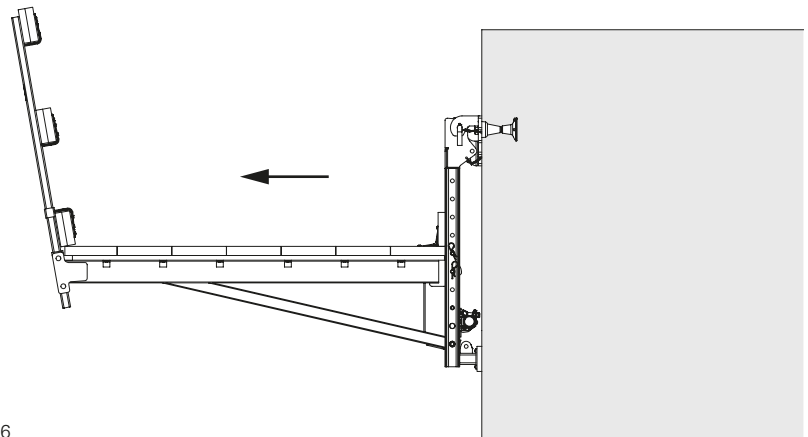

Fig. C3.06
- Dismantle and remove the platform unit. (Fig. C3.06)